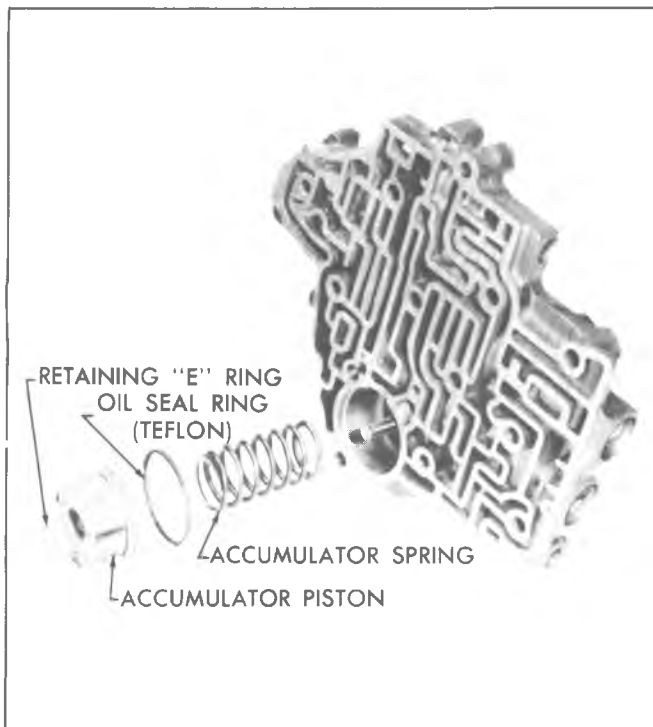

Fig. 7A-66C--Front Accumulator Assembly - Exploded View
4. Remove front accumulator piston and spring (Fig. 7A-66C).